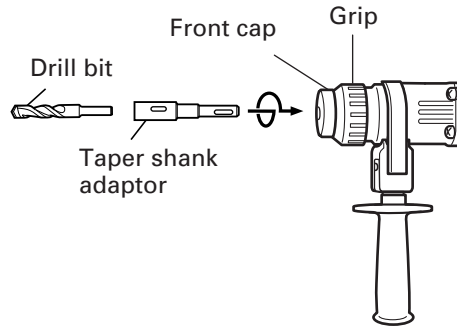
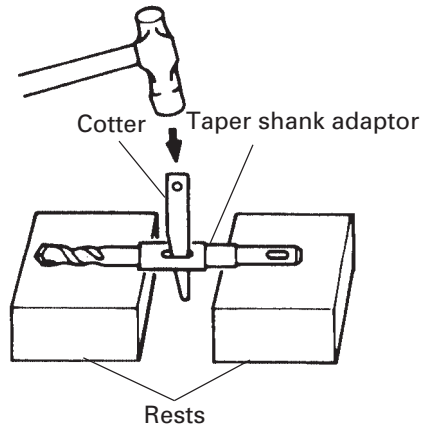

Fig. 11
Fig. 12
- (1) Mount the taper shank adaptor to the rotary hammer. (Fig. 11)
- (2) Mount the drill bit (taper shank) to the taper shank adaptor. (Fig. 11)
- (3) Turn the switch ON, and drill a hole in prescribed depth.
- (4) To remove the drill bit (taper shank), insert the cotter into the slot of the taper shank adaptor and strike the head of the cotter with a manual hammer supporting on the rests. (Fig. 12)